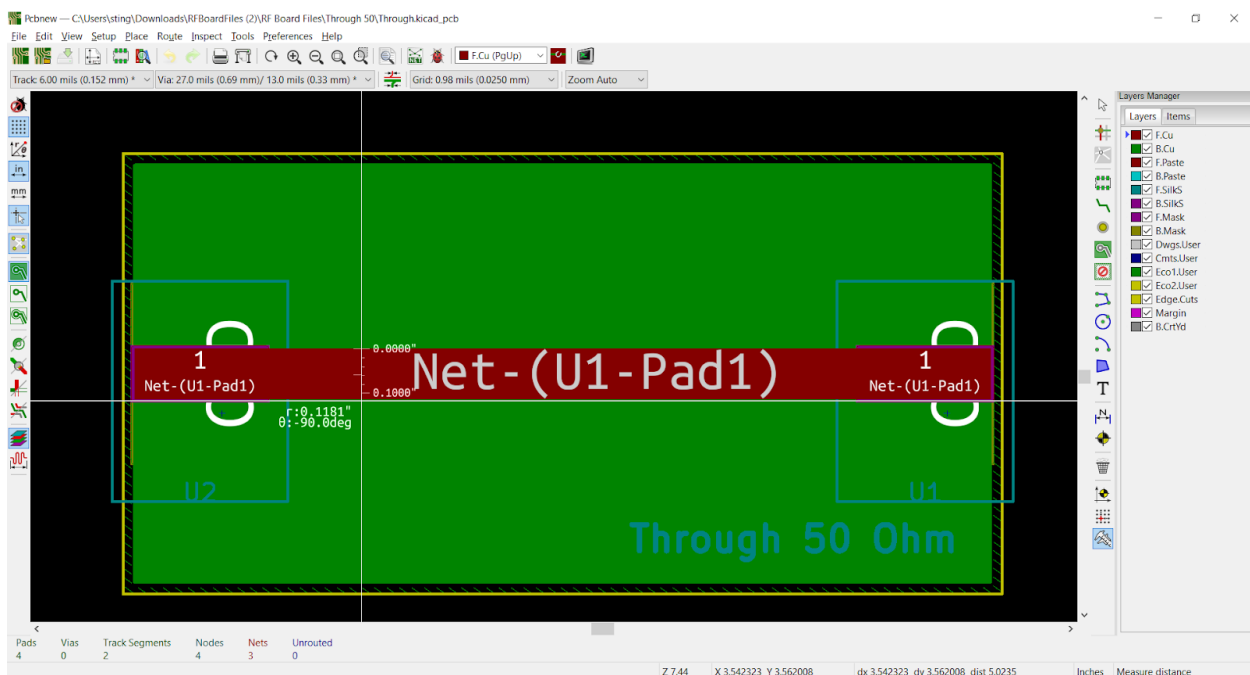
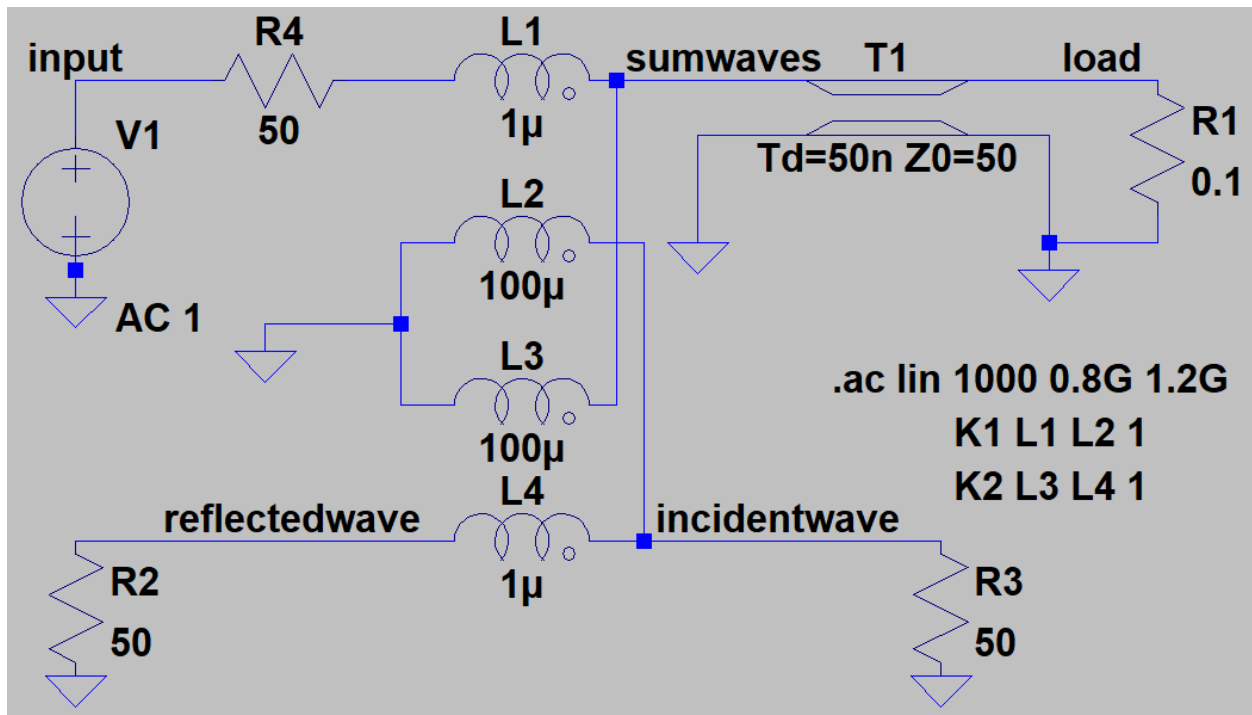

Figure 1: 50 ohm through
Figure 4: Simulated one-port vector network analyzer with directional coupler.
1. Figures 1 and 2 depict design files for boards in the lab that are referred to as the "50 ohm through" board and the "40 ohm through" board. The KiCAD files for test boards can be found at the embedded link (to the RF webpage). These boards were built in the OshPark two-layer PCB fabrication process. I've included screenshots of the layouts in Figures 4 and 5.
1. Simulate the circuit in Figure 4 to represent a VNA driving a 1m long SMA cable driving a short circuit. Vary the drive frequency from 800MHz to 1.2GHz. This figure includes an unfamiliar transformer network, which is called a directional coupler. It is used to extract the reflected wave from the sum of the waves. More on directional couplers and transformers at these links: <http://k6jca.blogspot.com/2015/01/notes-on-directional-couplers-for-hf.html> <https://www.analog.com/en/technical-articles/ltspice-basic-steps-for-simulating-transformers.html>